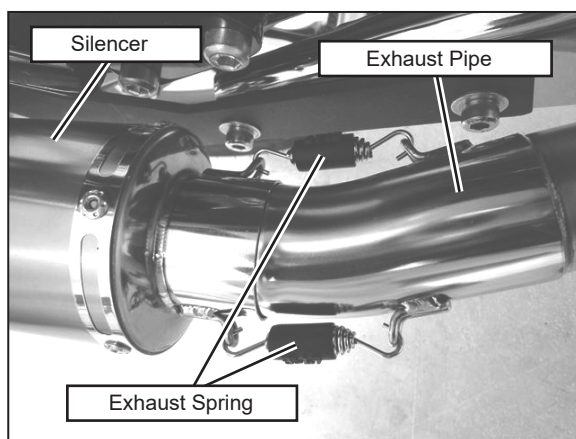

FIG. 7
6) Install Exhaust Spring onto each spring hook on Exhaust Pipe and Silencer Assy (See Fig. 7).